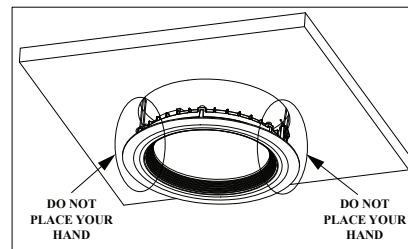

Figure 8 / Figura 8 / Schéma 8
- DO NOT PLACE YOUR HAND UNDERNEATH SPRING CLIP DURING REMOVAL PROCESS. SNAPPING OF THE CLIPS CAN CAUSE INJURIES TO THE HAND.** (Figure 8)